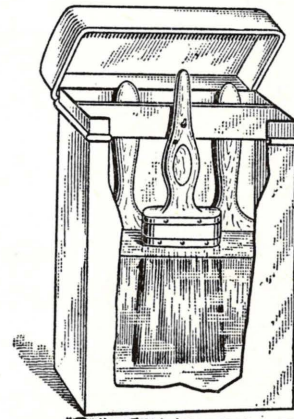

Fig. 158—When stopping for a week or more, suspend brushes in linseed oil and turpentine
4. When stopping for several days or weeks the brush should be suspended in a mixture of turpentine and linseed oil. This keeps the bristles from becoming hard. The brush should be wiped clean before it is used again. Shellac or lacquer brushes should be cleaned immediately. (See Fig. 158.)